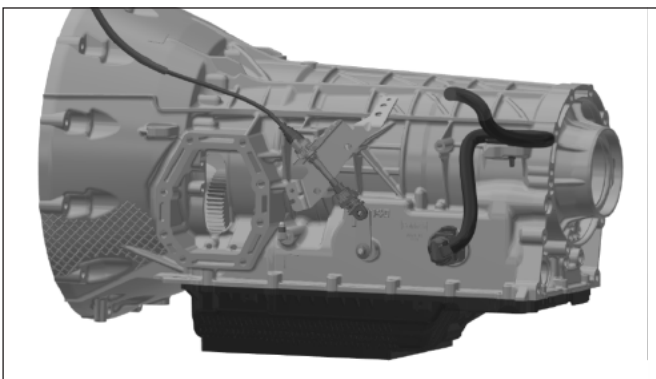
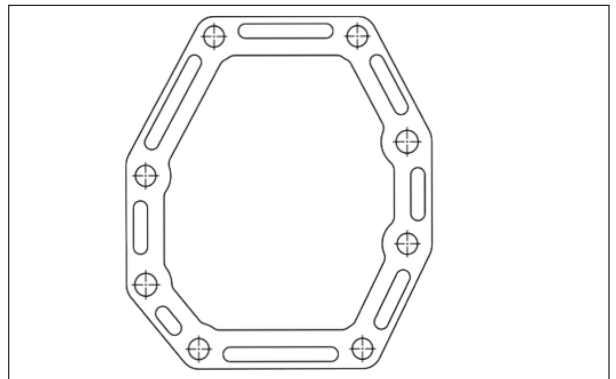

Figure 34
Figure 35
- Remove and discard the PTO aperture cover plate and gasket. Do not use this gasket when installing the PTO (**Fig. 34** and **Fig. 35**).